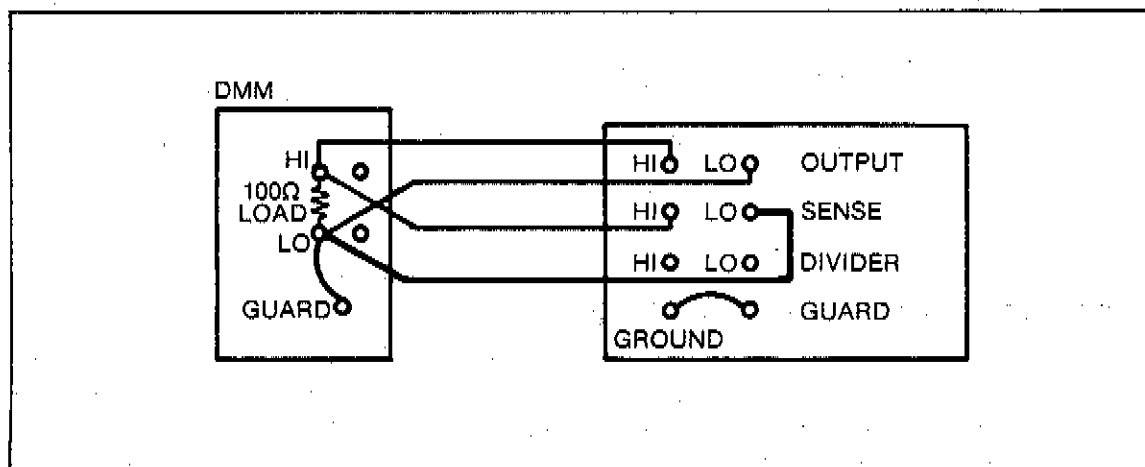

Figure 3-9. External Sense Test
2. Connect the equipment as shown in Figure 3-9 with the DMM set to the 2V range.